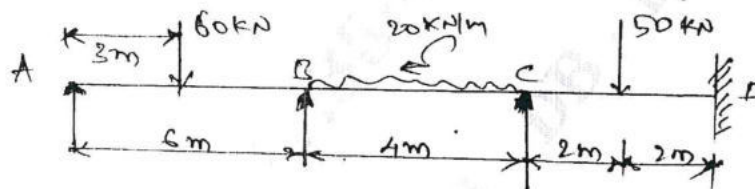

Fig. Q5
- 5 Analyse the continuous beam by Kani's method. Refer Fig. Q5. Draw bending moment diagram. (20 Marks)